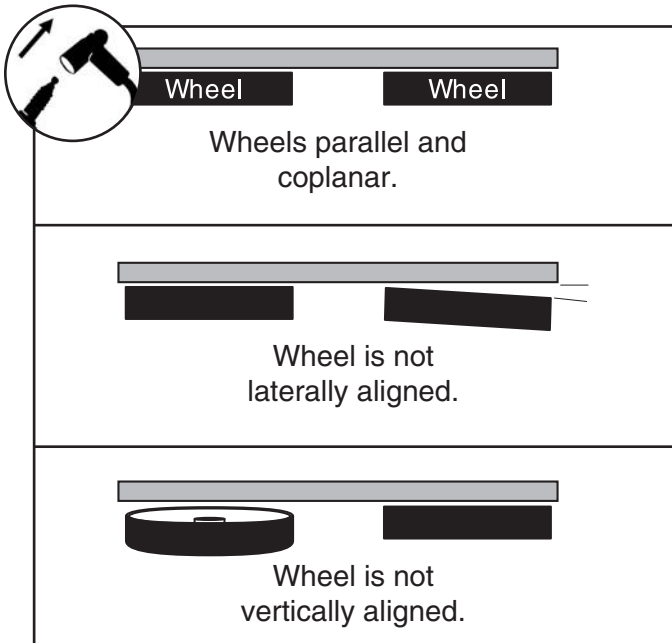

Figure 77. Examples of wheel alignment.
2. Check blade tracking (see **Page 42**) and determine which wheel needs to be adjusted, and in which direction (see **Figure 77**).